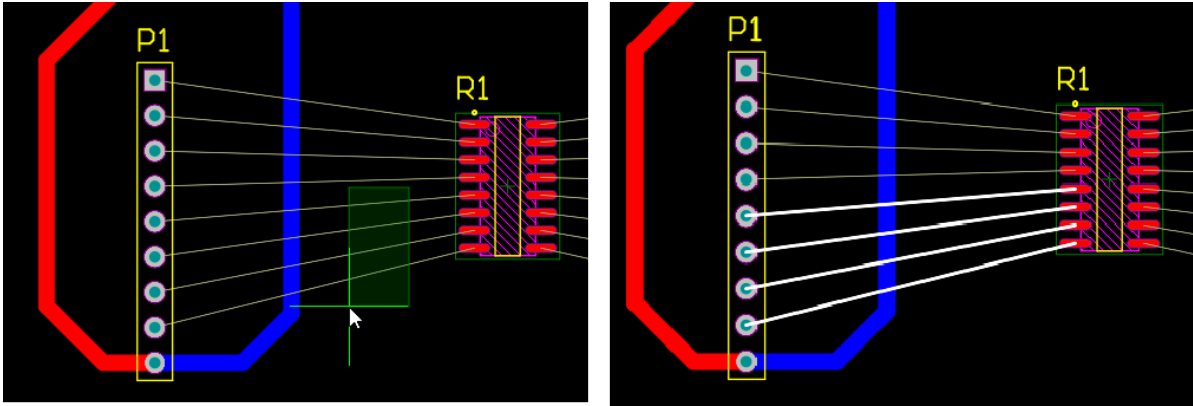

Figure 1. Manual selection using ALT and Right to Left Mouse sweep
6. Holding down the **ALT** key, use the left mouse button and sweep from right to left on the lower 4 connection lines associated with `P1` selecting them, as seen in Figure 1.